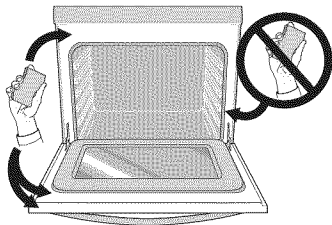

Figure 40: Oven door area to clean and not clean (gasket).
- Clean any soil from the oven frame, the door liner outside the oven door gasket and the small area at the front center of the oven bottom (See Figure 40). These areas heat sufficiently to burn soil on. Clean using soap and water prior to starting Self Clean.
- Do not clean the oven door gasket (See Figure 40). The woven material of the oven door gasket is essential for a good seal. Care should be taken not to rub, damage or remove the gasket. Do not use any cleaning materials on the oven door gasket. Doing so could cause damage to the door gasket.